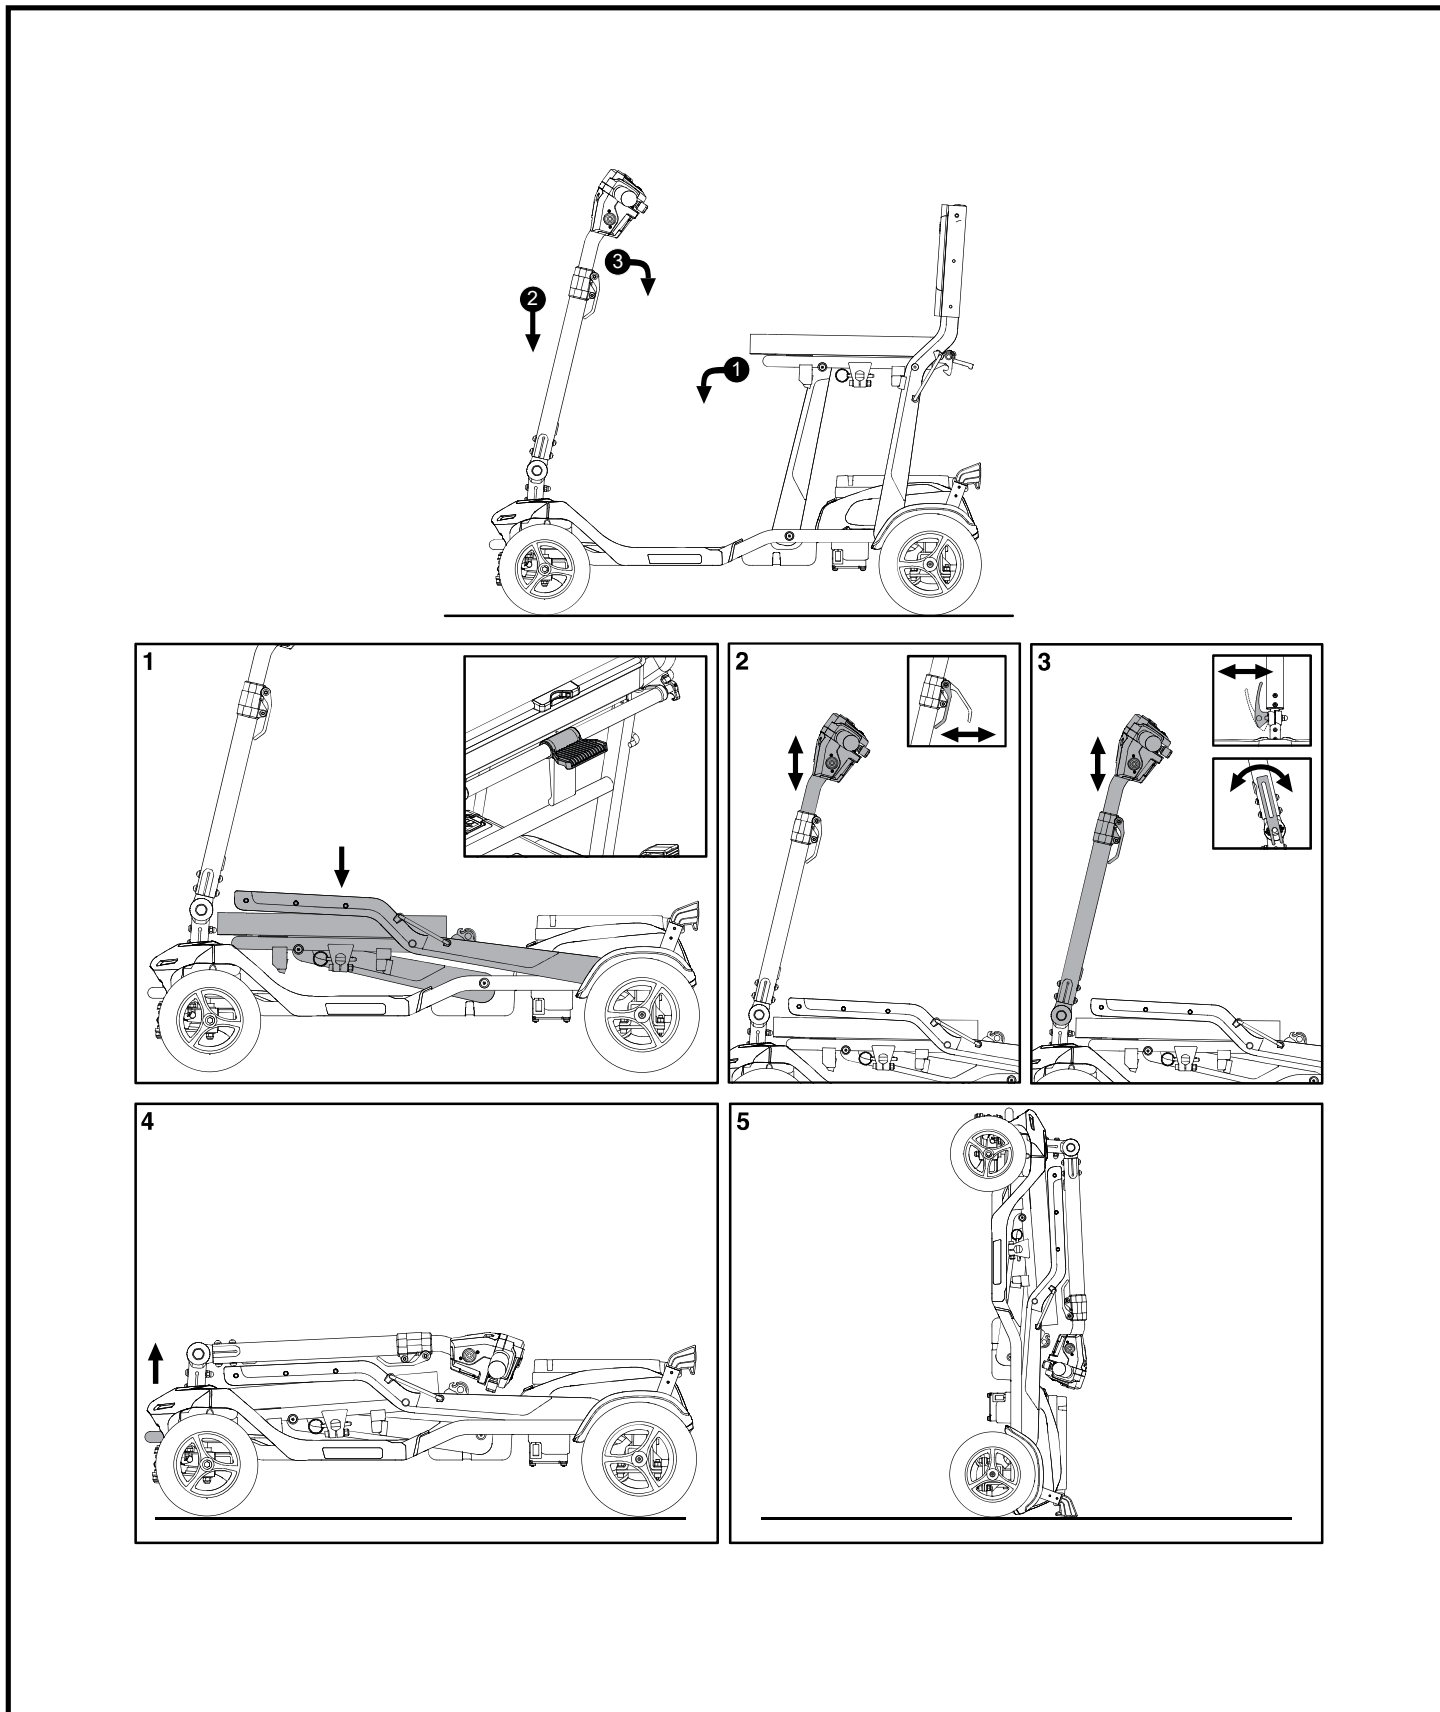

Figure 14. Folding for Transport
To fold your scooter (see figure 14):
To unfold your scooter (see figure 14):
1. Fold your scooter as shown in step 5 in figure 14. Refer to V. “Disassembly/Assembly and Folding/Unfolding” for more information.